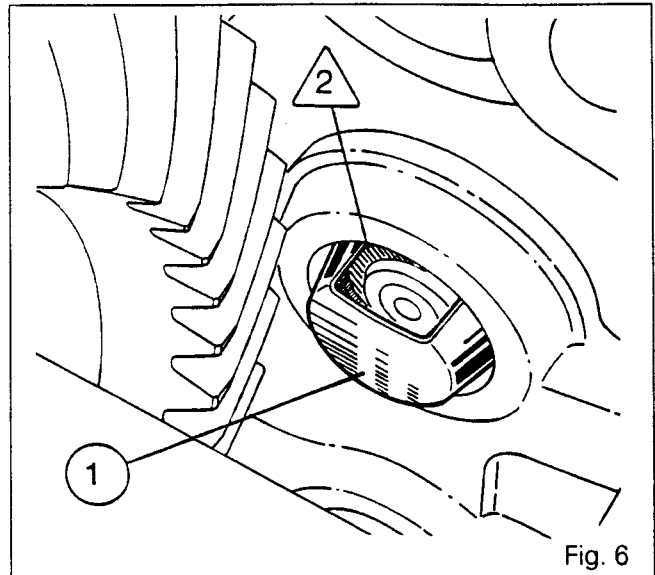

Fig. 6
29. Smear Loctite 648 on the face of the deflector (1) which meets the housing and place it in its hole. Position the aperture upwards (Fig. 6).
30. Fit the roller bearing /2\ in the housing against deflector (1) (Fig. 6).